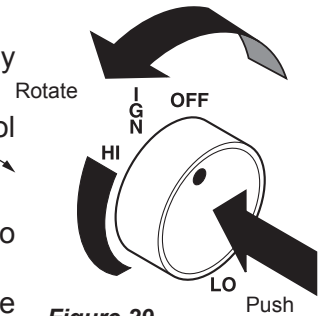

Figure 29 - IGN Position
6. From OFF position, push in gas control knob slightly and turn counterclockwise to the IGN position. Figure 29. Push in and hold control knob for 5 seconds.